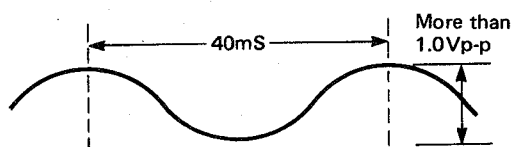

Figure 87.
2. Observe the output of TP-704, and check its values are as shown in Fig. 87.